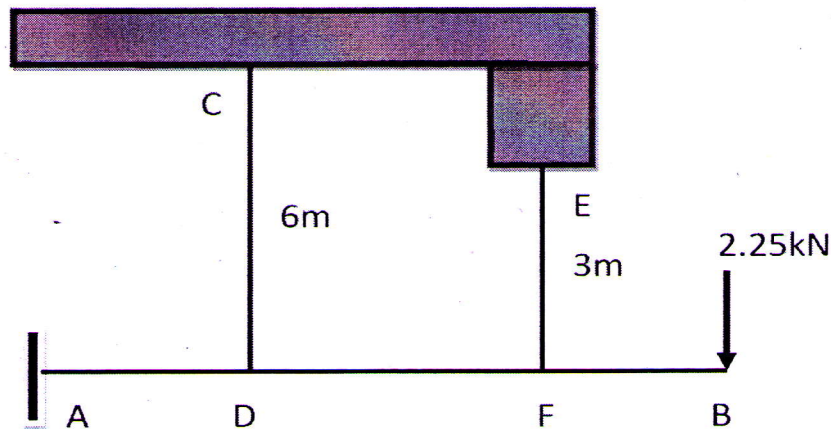

Figure 2
- 12 A rigid beam AB of length 2.4m is hinged at A and supported by two steel wires as shown in fig:2. The steel wire CD has a length 6m and diameter 12mm supports the beam at distance(AD) 0.6m from hinge A; the steel wire EF has a length 3m and diameter 3mm supports the beam at distance(BF) 0.6m from end B. If the beam supports a concentrated load of 2.25kN at the end B, Calculate: